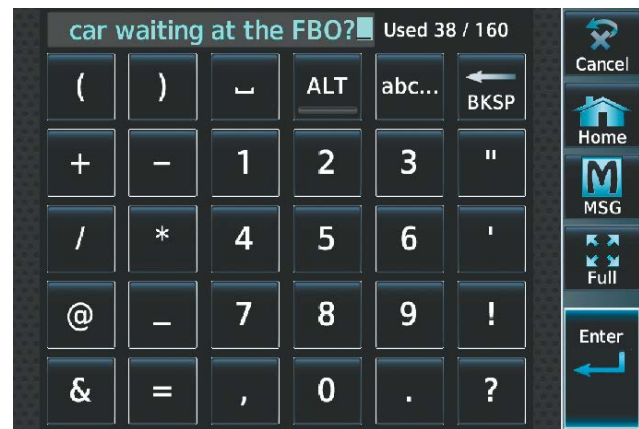

Figure 8-87 Reply Message
- 6) Touch the 'Message' Window. The alphanumeric buttons are displayed as in Figure 8-87.